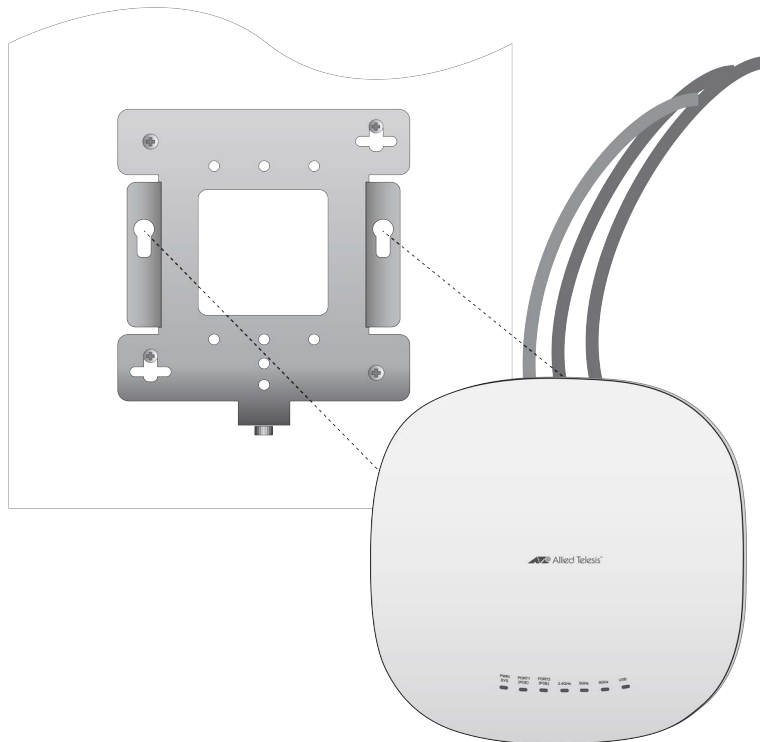

Figure 23. Installing the Access Point on the Mounting Bracket
1. Align the bottom of the access point over the bracket so that the two screws on the bottom of the device fit into the bracket keyholes. Refer to Figure 23. (These are the two access point chassis screws installed in “Pre-fitting the Mounting Bracket on the Access Point” on page 32.)